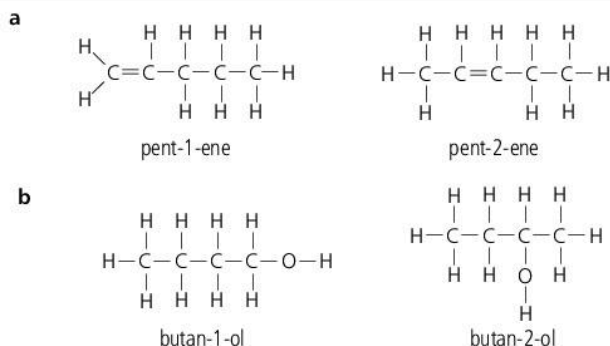

Figure 12.3.2 Position isomerism: **a** two position isomers of pentene, **b** two position isomers of butanol
- **Position isomerism:** The position of the functional group differs. For example, the position of the double bond in pent-1-ene is different from the position in pent-2-ene (Figure 12.3.2(a)).